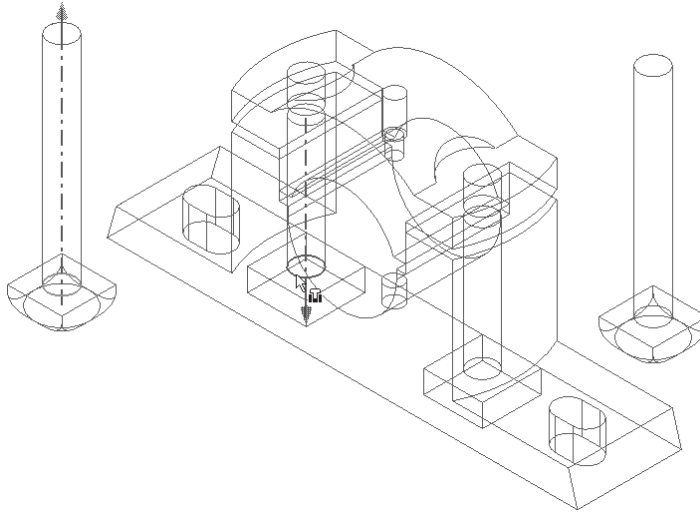

Figure 8-56 Selecting the faces to apply the constraint
2. Invoke the **Place Constraint** dialog box and then choose the **Insert** button from the **Type** area. Select the circular edge on the top face of the base square feature of the Bolt as the first face to apply the constraint, see Figure 8-56.
3. Change the display type to wireframe and then select the circular edge on the top face of the square cut on the bottom face of the Casting, see Figure 8-56. Choose **Apply**.